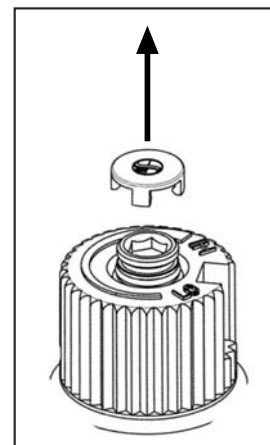

Figure 7: Removing valve cap.
a) Remove the black protection cap from the HI/LO knob by hand shown in Figure 7.
g) Re-attach the black protection cap that was removed in step a (Figure 7).